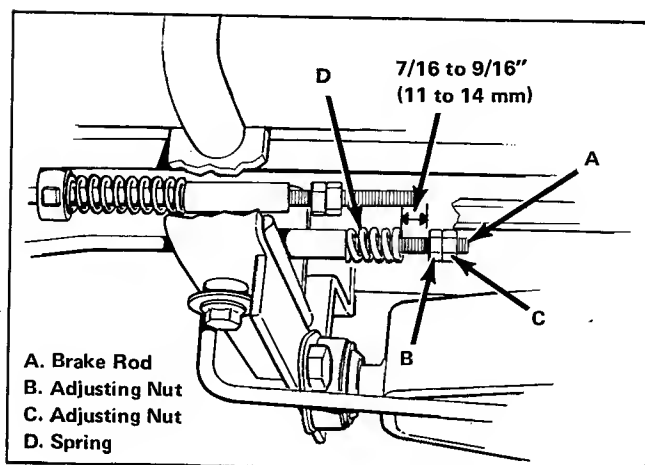

Figure 31. Brake Rod Adjustment
1. With the tractor on a level surface, place the transmission in gear and release the parking brake. Grasp the brake rod (item A, figure 31) and push it firmly forward to seat the brake band on the drum.